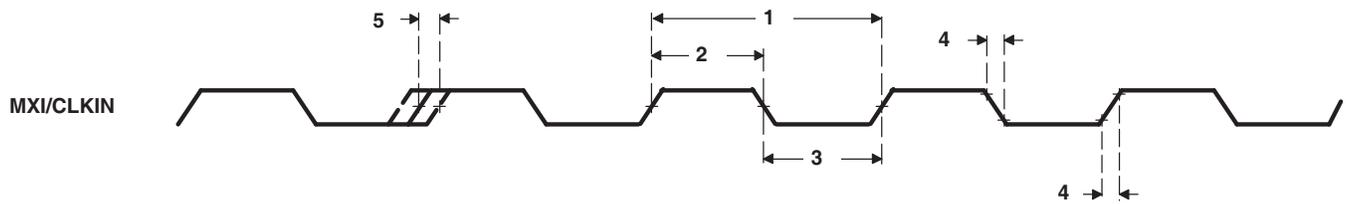

Figure 6-14. MXI/CLKIN Timing
Table 6-16. Timing Requirements for MXI/CLKIN Devices^{(1) (2) (3) (4)} (see Figure 6-14)